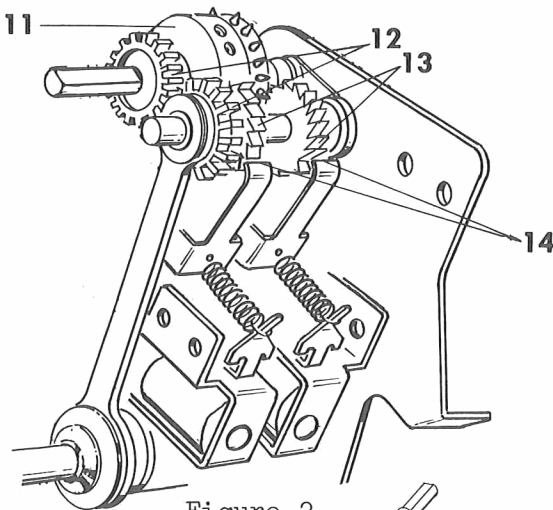

Figure 1
STEP 1 Preparatory Disassembly (Figure 1)
STEP 3 Parts Check (Figures 1 & 2)
Check the following for worn or broken parts - Figure 1: